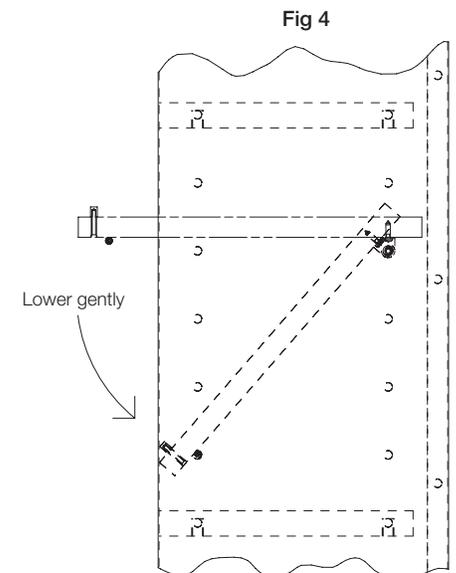

Fig 4
1.6. Finish by gently lowering the shelf to its resting position on the shelf support. (Fig. 4)